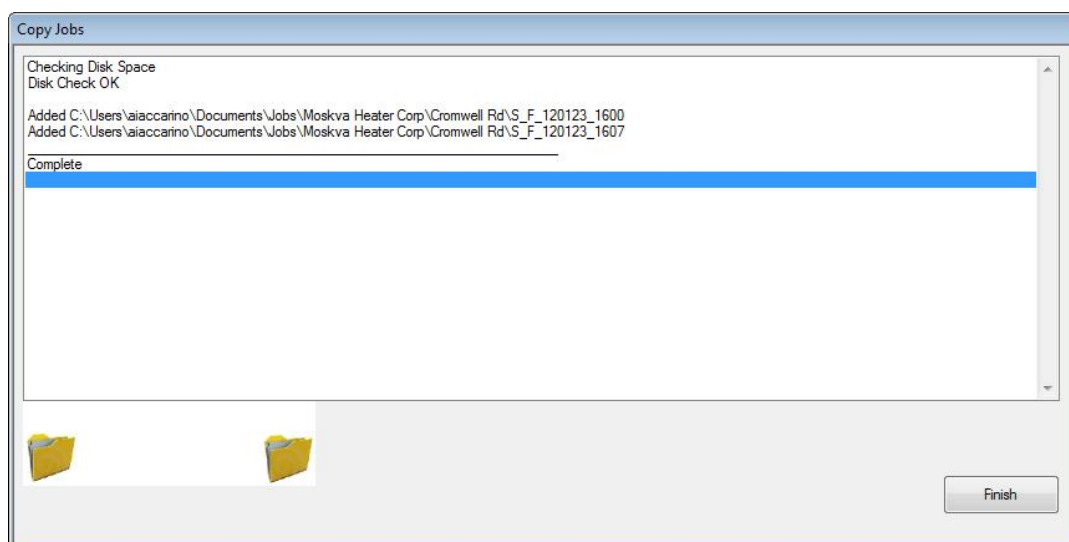

Figure 3.14 Copy Jobs summary screen
5. The Copy Jobs windows will appear and when the copy is completed, it will show you the location of the new survey folders (see Figure 3.14). Press **Finish** to continue.